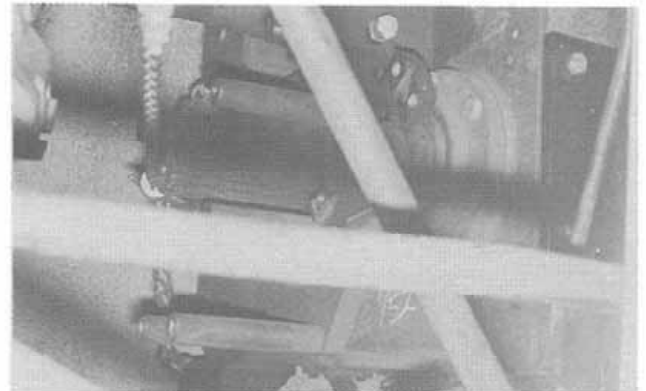
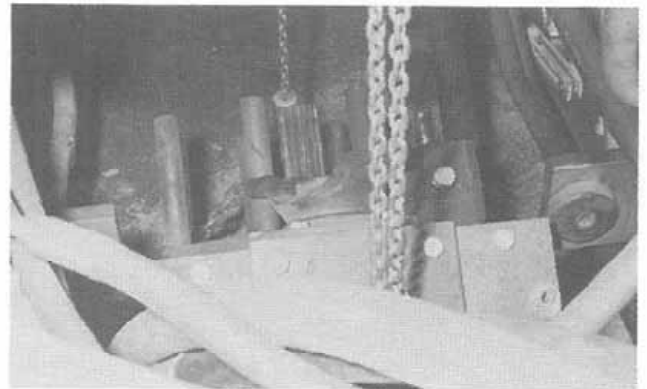

Figure 18:
Figure 19:
19. Tilt the transfer case by lifting with the front hoist (Fig. 18), continue to lift with the front hoist and lower with the rear hoist in equal steps (Fig. 19) until the assembly is horizontal (Fig. 20).